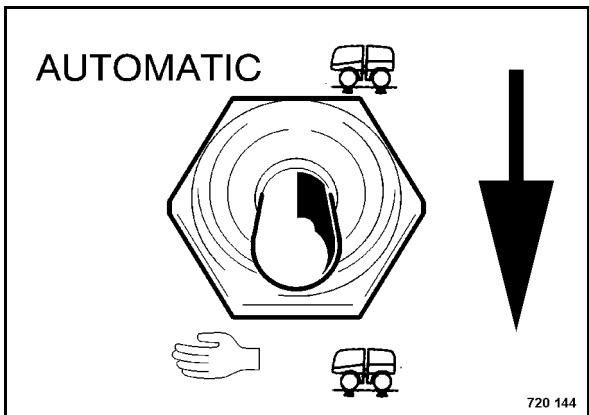

Fig. 47
- Set the vibration switch (Fig. 47) to position "Manual".